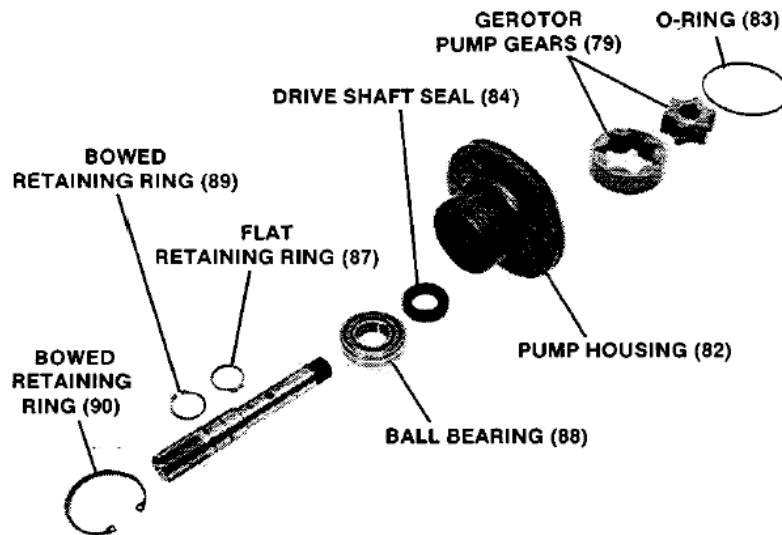

Figure 5-12. Drive Shaft Seal Assembly
8. Press drive shaft seal (84) to bottom of pump housing (82) (Figure 5-12).